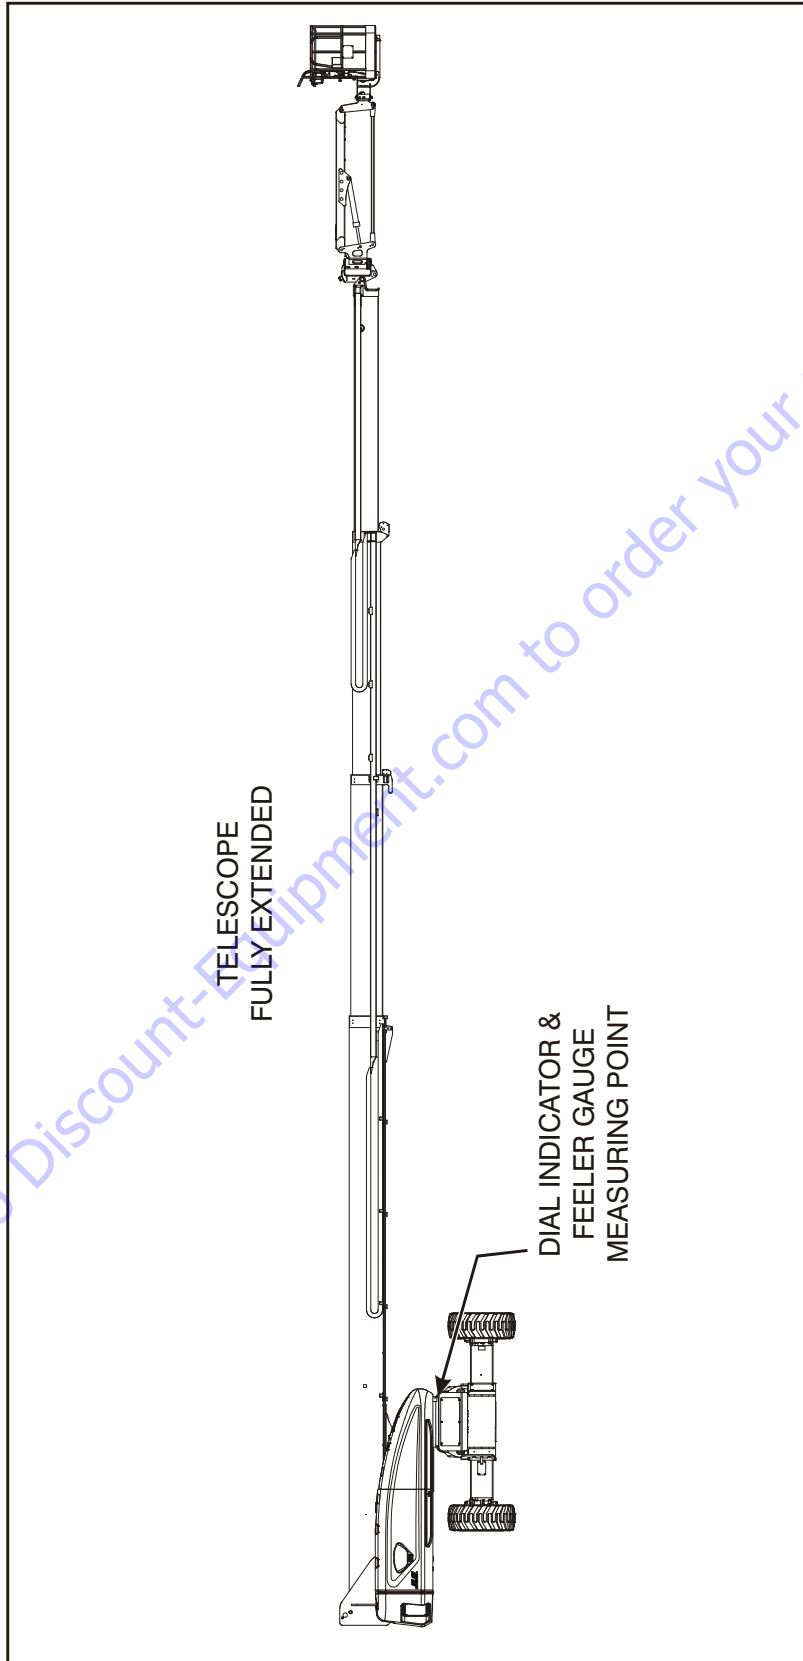

Figure 3-45. Swing Bearing Tolerance Boom Placement - Sheet 2 of 2
- d. At the position indicated on Figure 3-45., try and insert the 0.0015" feeler gauge between the bolt head and hardened washer at the arrow indicated position.
2. Next, position the main boom fully extended and horizontal as shown in Figure 3-45., Swing Bearing Tolerance Boom Placement - Sheet 2 of 2. Read the measurement recorded on the dial indicator gauge.